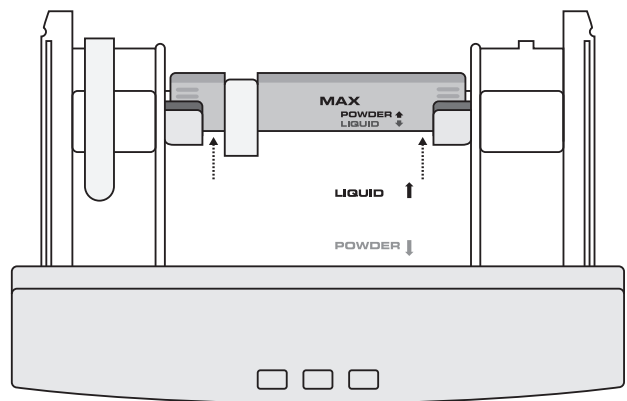

Figure 2
- **For liquid detergent:** Install the divider in the back position. Put the detergent selection blue wall, that is located at the end of the dispenser, at the back position, as shown in Figure 2.